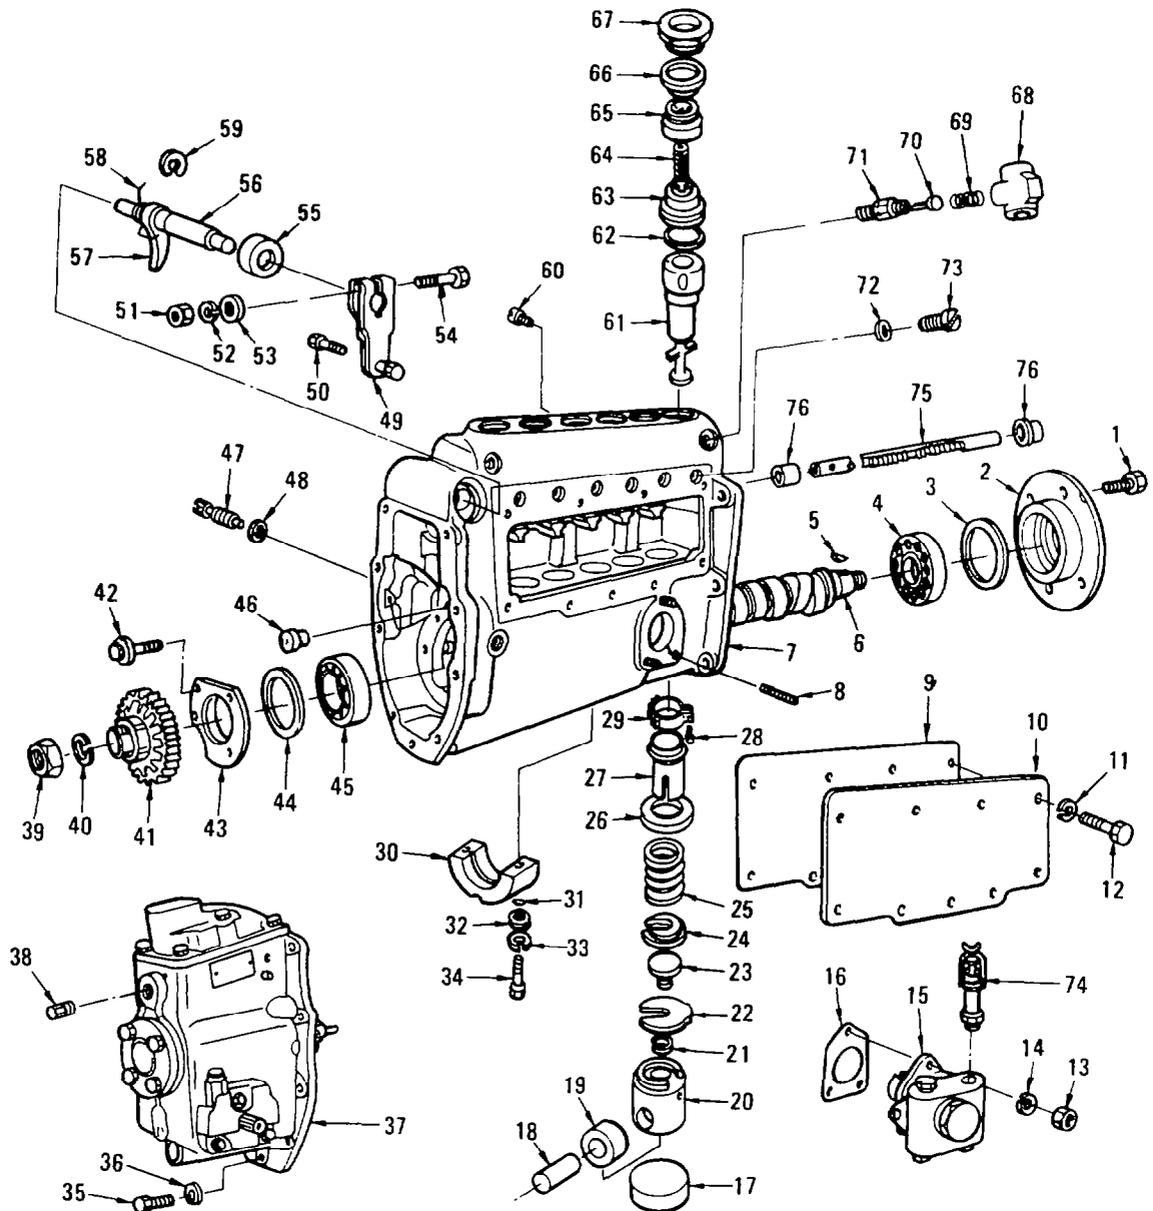
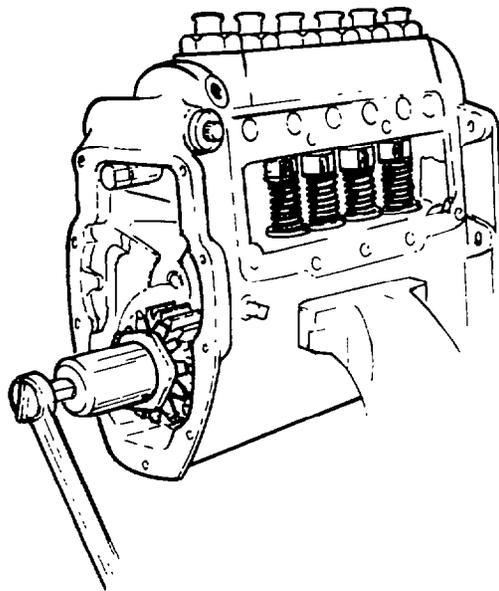
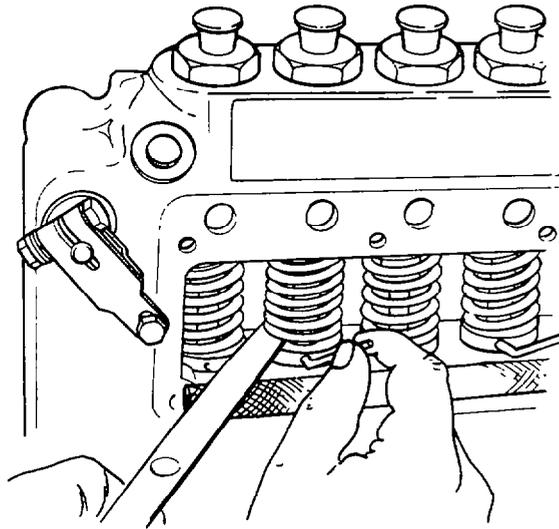
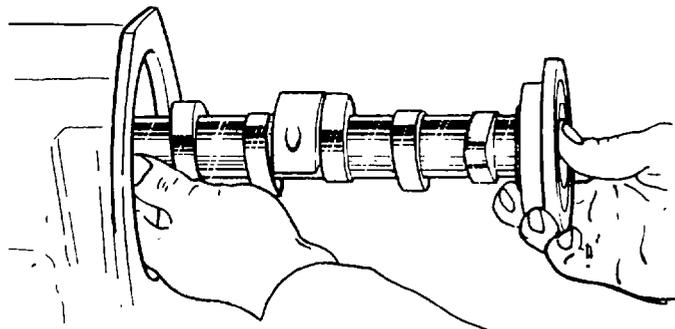

Fig. 90 — Exploded View of Injection Pump
Fig. 92 — Removing Friction Clutch Assembly
Fig. 93 — Installing Service Pins
Fig. 94 — Removing Camshaft
NOTE: Unless otherwise stated, all numbers in parentheses () refer to illustration numbers in Figure 90.
- c. Remove the nuts (fig. 90, item 13), lockwasher (item 14) and remove the supply pump and gasket (items 15 and 16).
- d. Remove the bolts and lockwashers (items 12 and 11) and remove the inspection cover and gasket (items 10 and 9).
- e. Remove the overflow valve (items 68 to 71) as an assembly, using an open end spanner.
- f. Remove the governor fastening bolts and lock washers (items 35 and 36). Tap the governor housing (item 37) lightly with a plastic or rubber mallet to loosen, then move the governor (item 37) to the right to disengage the control rack (item 75). Remove the governor assembly.
- h. Hold the camshaft stationary using tool TSE 7913D attached to the front drive coupling. Loosen the nut (item 39) with a socket, then attach puller TSE 7920 to the friction clutch assembly (item 41) and tighten the bolt $1\frac{1}{2}$ turns (see fig. 92). Tap the end bolt with a hammer to upset the friction clutch assembly (item 41). Remove the tool, nut (item 39), lockwasher (item 40) and friction clutch assembly (item 41).
- i. Lift the tappet with tool TSE 761, and insert service pin TSE 76156B into the hole in the tappet shell (fig. 90 item 20) (see also fig. 93).
- j. Remove the front drive coupling and woodruff key (item 5 fig. 90).
- k. Invert the pump housing. Secure by gripping the delivery valve securing nut (item 67) in a soft jawed vice.
- l. Remove the centre bearing retaining bolts (item 34), washers (items 32 and 33) and O-rings (item 31).
- m. Remove the rear bearing plate screw (item 42) using a 3/8 in. socket and remove the rear bearing plate (item 43), spacers (item 44) and roller bearing (item 45) by tapping the camshaft (item 6) lightly with a plastic or fibre mallet to move the rear bearing plate outward.
- n. Carefully slide the camshaft (item 6) and centre bearing (item 30) out the rear of the housing (see fig. 94).
- o. Remove the fastening screws (fig. 90, item 1), front bearing plate (item 2) and spacers (item 3) (roller bearing outer raceway). If necessary use a brass drift or wood dowel inserted in the back of the pump housing (item 7) to tap out the front bearing plate.
- 2 Remove the service pin TSE 76156B, then slowly release pressure on the spring (item 25) until the tappet assembly (items 18 to 23) comes to rest with no tension on the tappet spring. Withdraw the tool and repeat the procedure at each tappet spring.
- r. Remove the tappet locating screws (fig. 90, item 47) and gaskets (item 48).
- 32 Inspection. Table 4 details inspection procedures for the fuel injection pump together with expected conditions/results and corrective action as necessary. Unless otherwise specified, numbers in parentheses () refer to illustration numbers in fig. 90.